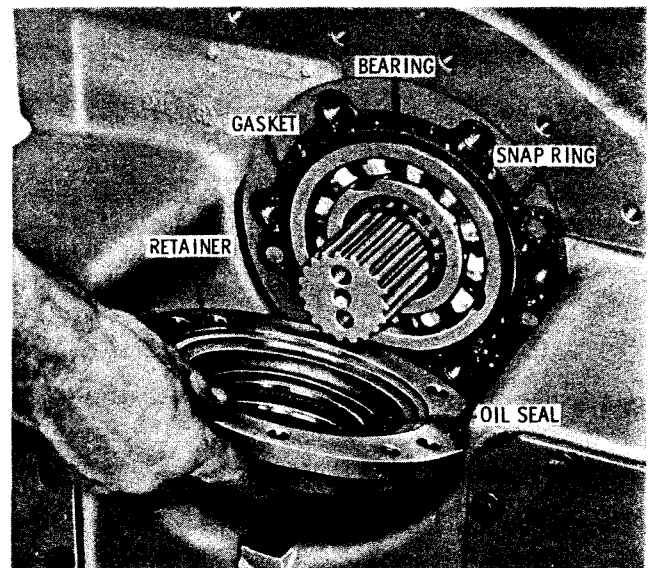

Fig. 5-39. Removing output shaft front bearing retainer
(2) Remove six bolts and lock washers which retain the bearing retainer. Remove the bearing retainer and gasket (fig. 5-39). If replacement is necessary, remove the oil seal from the retainer. Remove the snap ring from the bearing. Remove the retainer. Refer to paragraph 6-7 for replacement of the retainer oil seal.